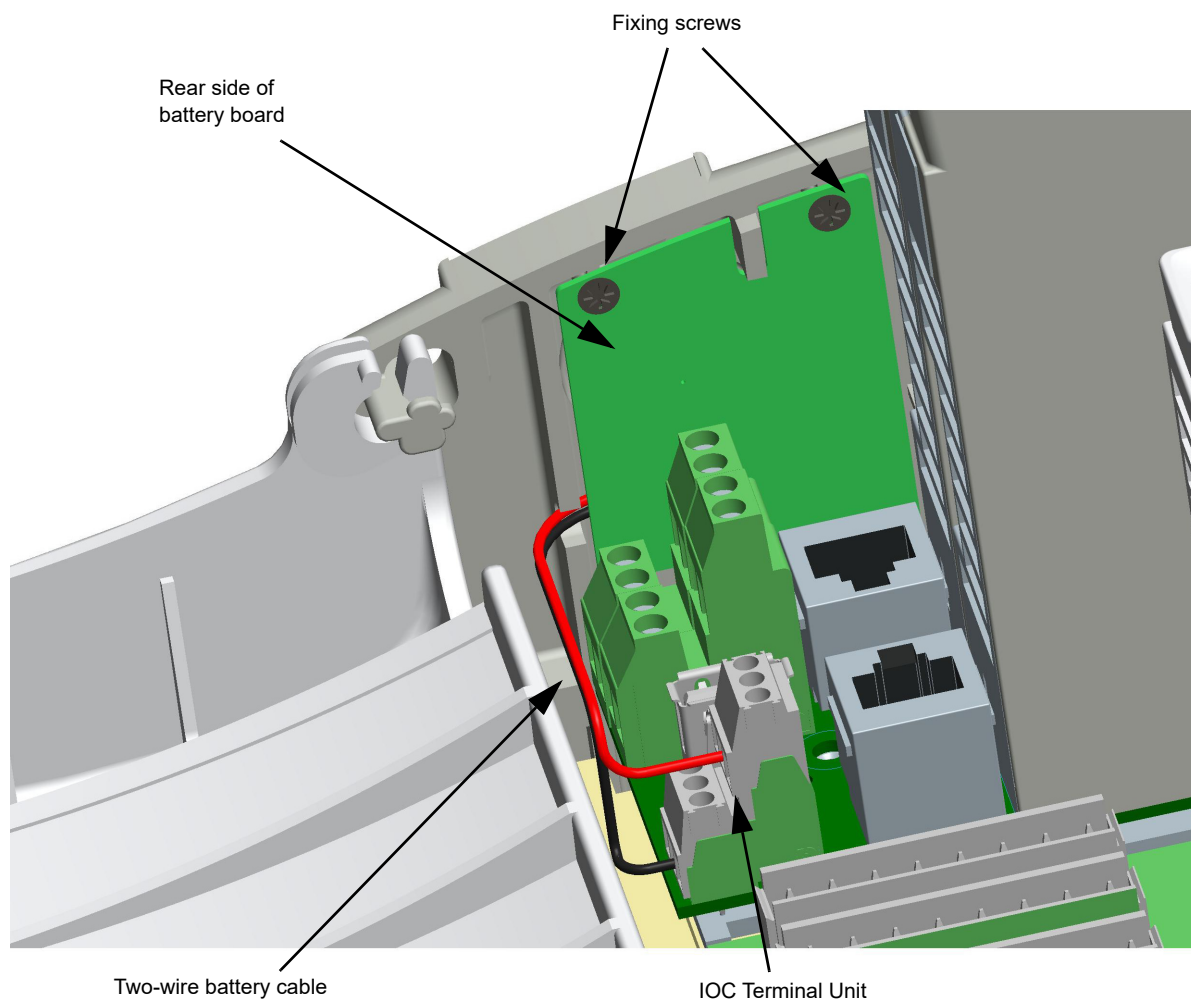

Figure 116 Battery board in place
2. Locate the back of battery board (Figure 116): It is on the inside of the plastic side panel to the left of the controller module, and is fixed in place by two screws. A two-wire cable runs from the front of the battery board to the controller module terminal unit; the red wire connects to the B+ terminal, the black wire connects to the B- terminal. It is recommended leaving these wires connected to the terminals whilst replacing the battery.